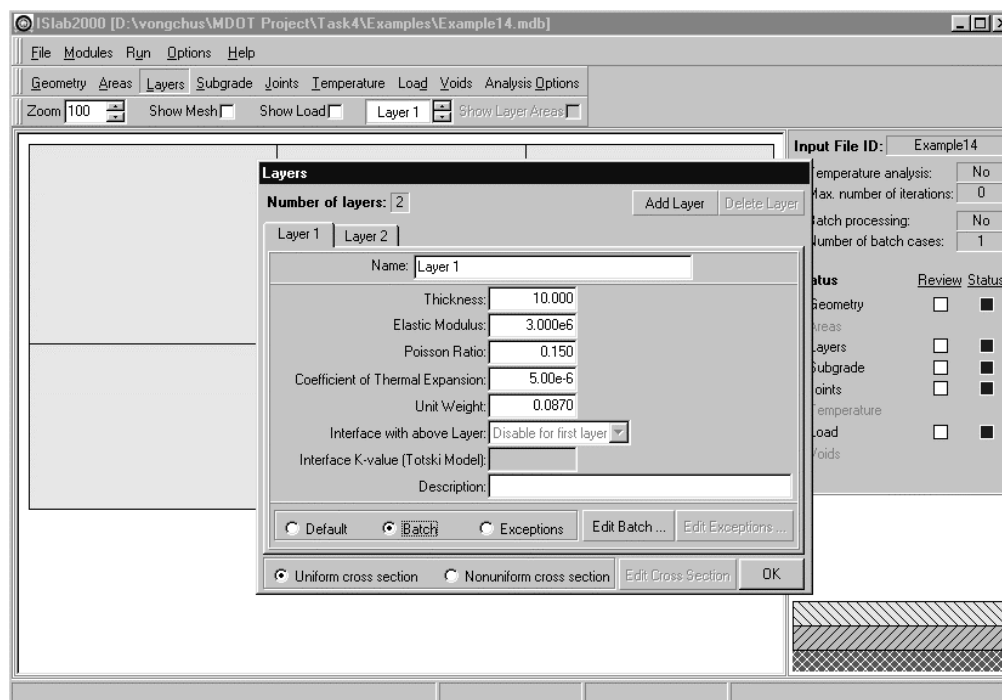

Figure E14-2: Edit Inputs for the Layers Module
(see Figures E14-2 and E14-3)
- Step 5: On the layers panel, select the **Layer 1** tab, select **Batch**, and then click **Edit Batch** to open the layer 1 properties panel (see Figure E14-2).